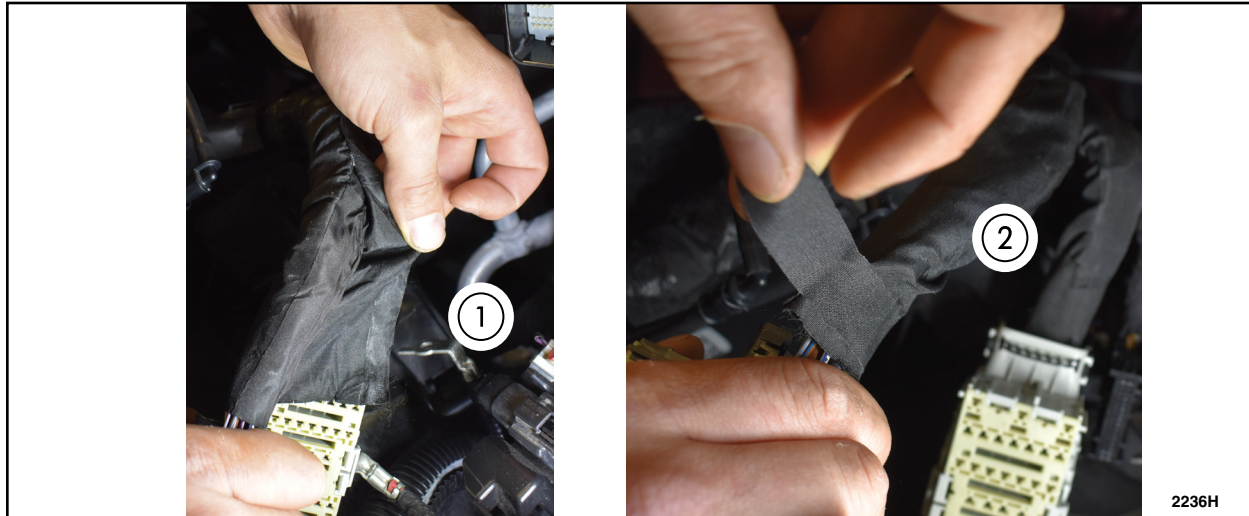

FIGURE 21
24. Put wire covering back into place and secure with new Coroplast tape. See Figure 21.